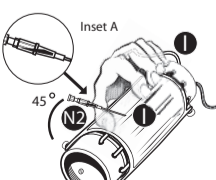

Fig. 21 - Needle Flash Chamber
4. Upon completion, a “flash” of blood in the flash chamber of needle **N2** indicates a successful insertion (Fig. 21). Proceed with Paragraphs 5-6 under “DRY STICK INSERTION” and complete IV insertion, using vein **I** instead of veins **K**.